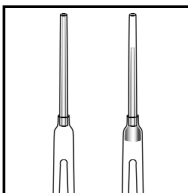

Figure 2
5. Pull the VACUette into a vertical position. A small portion of the collected sample should fall into the sleeve of the VACUette tip (fig 2).